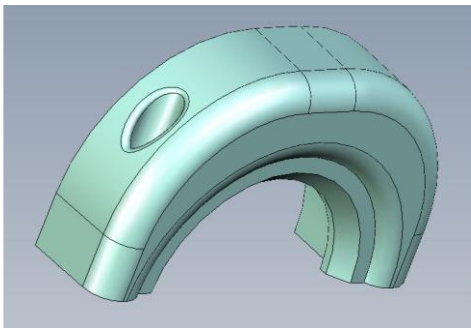

Figure 15: Plastic Bracket
Step 4: Place the plastic bracket on the SecurNozzle and secure in place with the screws as indicated in Figure 15.